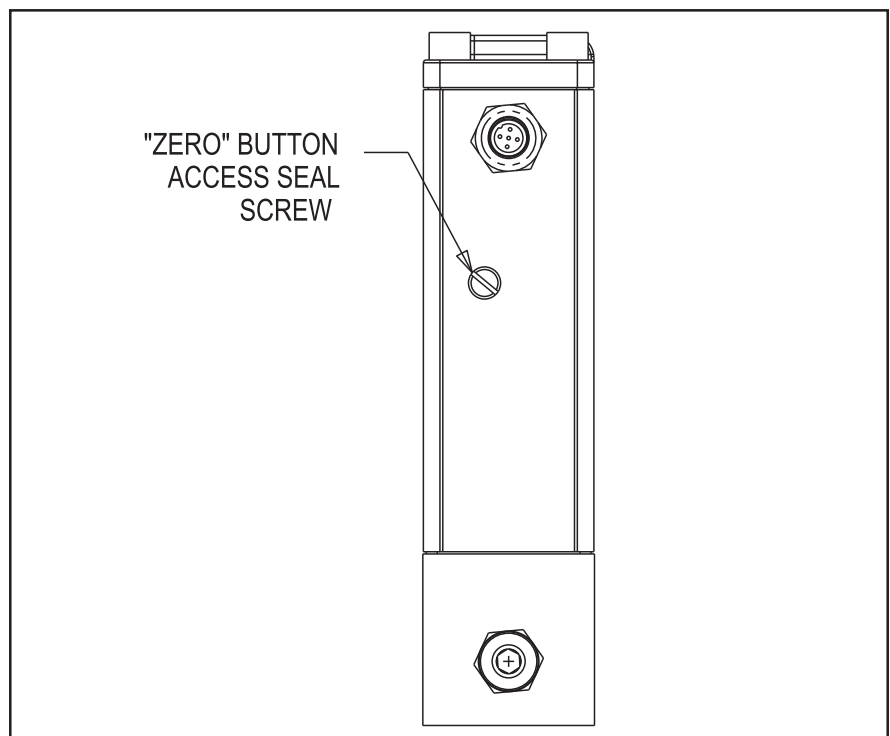

Figure 3-2 Externally Accessible Adjustment for all Meters/Controllers.
**Note: Before zeroing the instrument, zero pressure differential MUST be established across the device. If there is pressure across the instrument during the zero process, any detected flow through the sensor will be misinterpreted as the zero flow reading. This will result in calibration inaccuracy during normal operation. Once zero differential pressure is established and verified, remove threaded cover to access the zero button, press the recessed, momentary push-button (self-zero button) located on the side of the device (See Figure 3-2) to start the self-zero function. The zeroing process requires approximately 10 mseconds.**